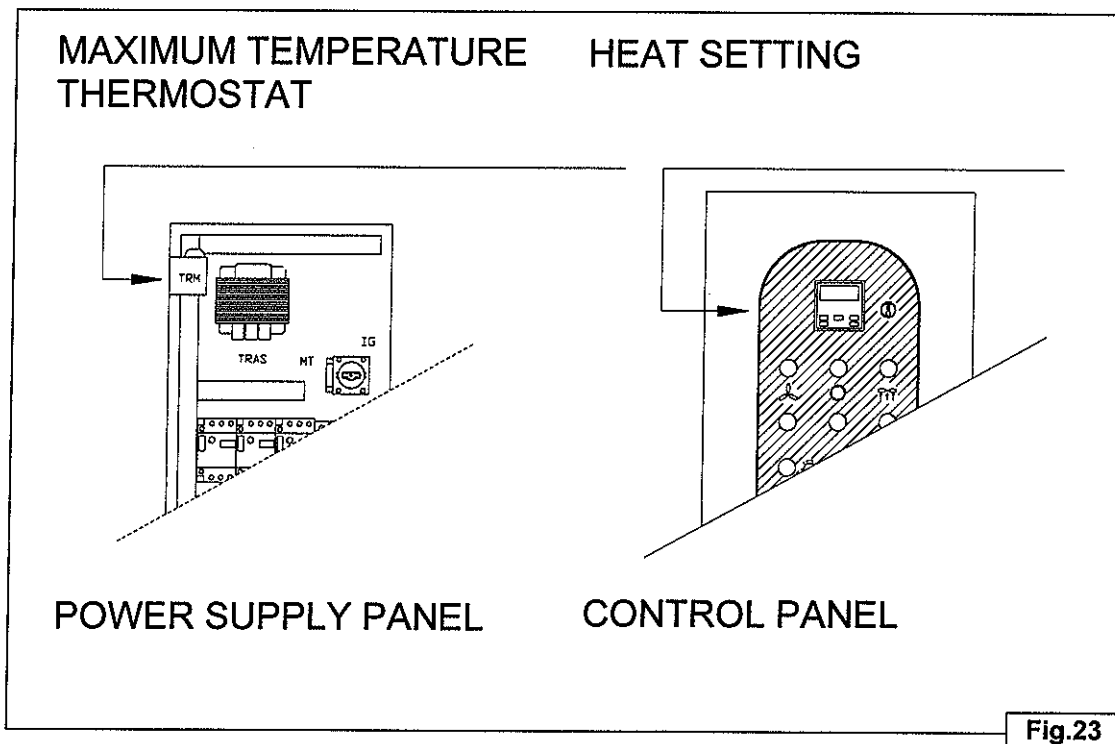

Fig.23
- After setting the operating temperature (Max. 300°C) on the control panel with the heat adjustment setting (Fig. 23), calibrate the safety thermostat on the power supply panel at a value that is 50°C higher than the maximum operating temperature setting.